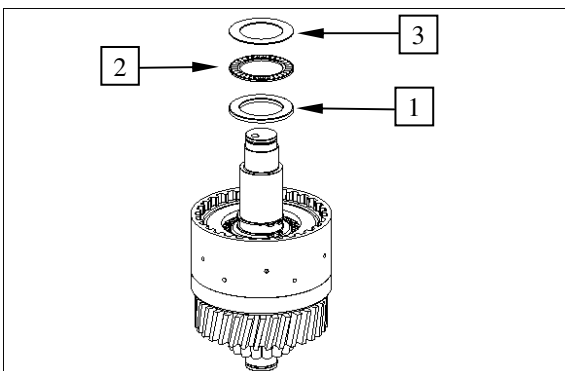

Figure 16
**Contact for axial bearing – see Figure 16!**